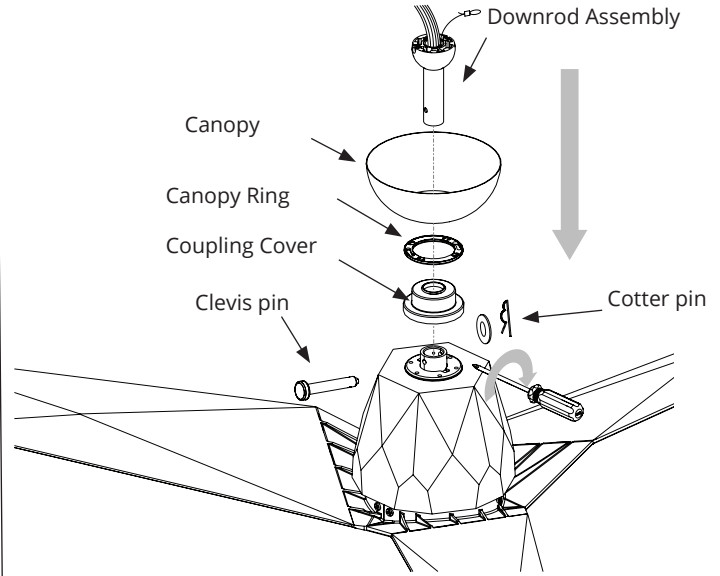

FIGURE 11
1. Remove the clevis pin and cotter pin and loosen the two collar screws from the motor collar (Fig.11).
4. Thread the downrod assembly onto motor collar. Align the holes of down- rod and collar and insert the cotter pin and clevis pin. Tighten the two collar screws (Fig. 11).